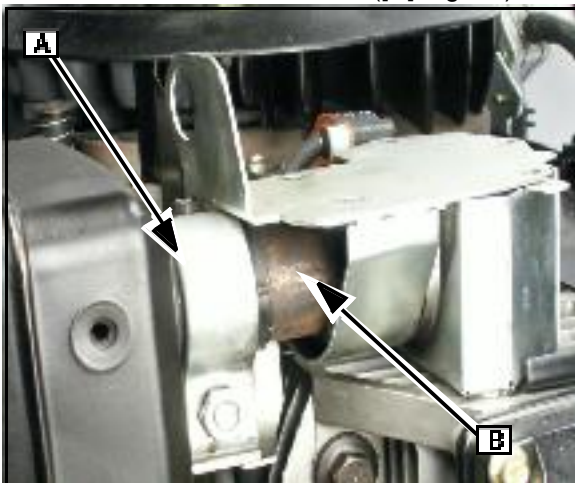

Fig. 27
- Push the muffler and clamp assembly ([A] Fig. 27).